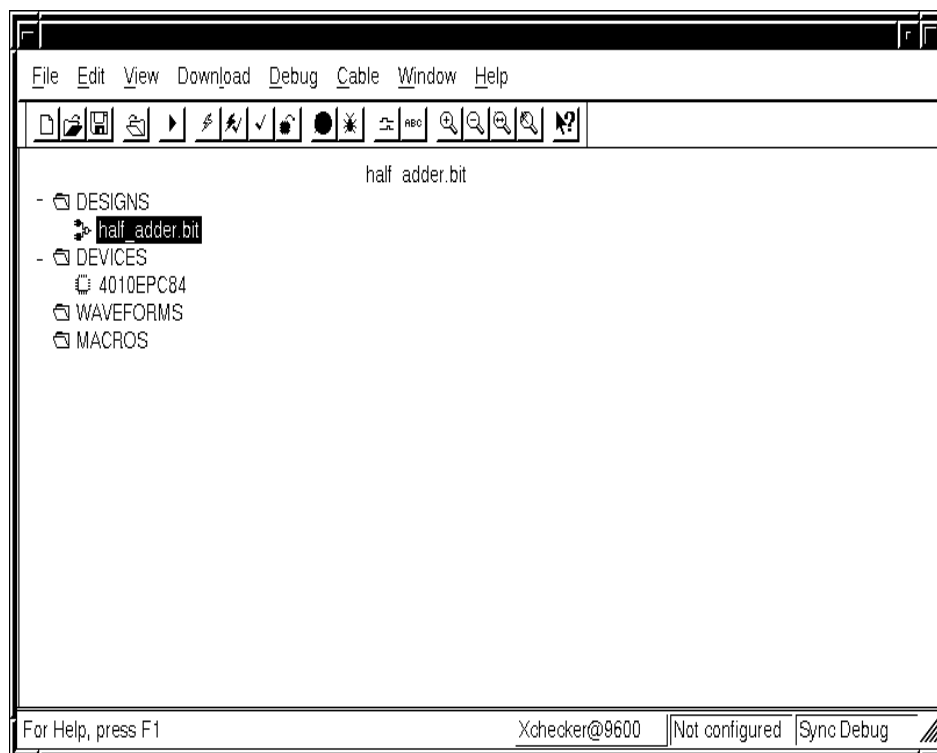

Figure 33: Selecting the half\_adder.bit file for download.
(2) The Hardware Debugger window will now list the current design (half\_adder). Use the mouse to highlight the half\_adder.bit file listed under DESIGNS (see Figure 33). After selecting the bit file, select Download from the top menu bar.